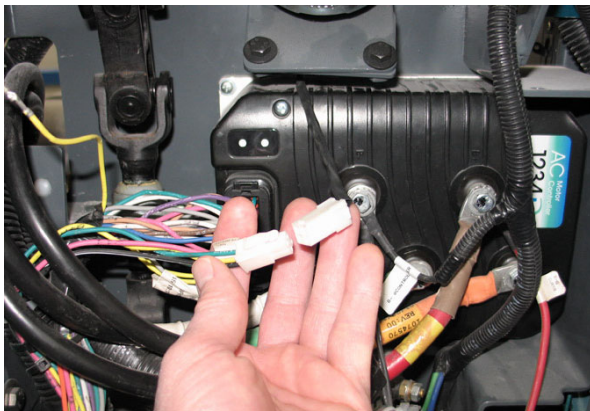

FIG. 4
1. Disconnect the main wire harness from the pod assembly. (Fig. 4)
7. Connect the pod assembly (1) to the main wire harness. (Fig. 4)